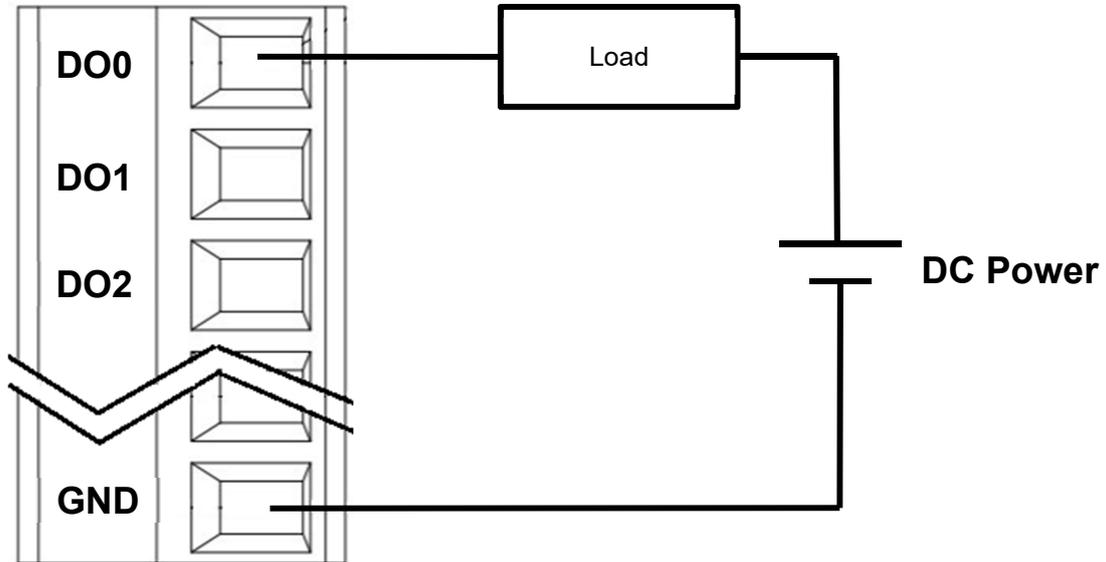

Figure 4.16 - Wiring of DO (Digital Output) Contact
Figure 4.16 shows an example of digital output (DO) wiring of the IO5202 in which the DO0 channel is connected to positive end of the load and a DC power supply and the GND channel is connected to the negative end of the DC power supply.